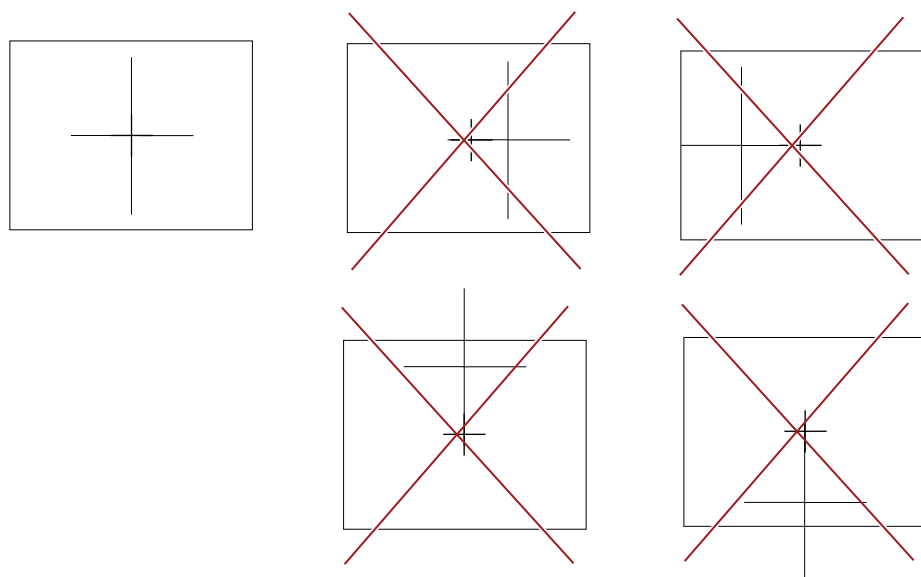

Fig. 5-103
2. Align by the method described in Fig. 5-103 .